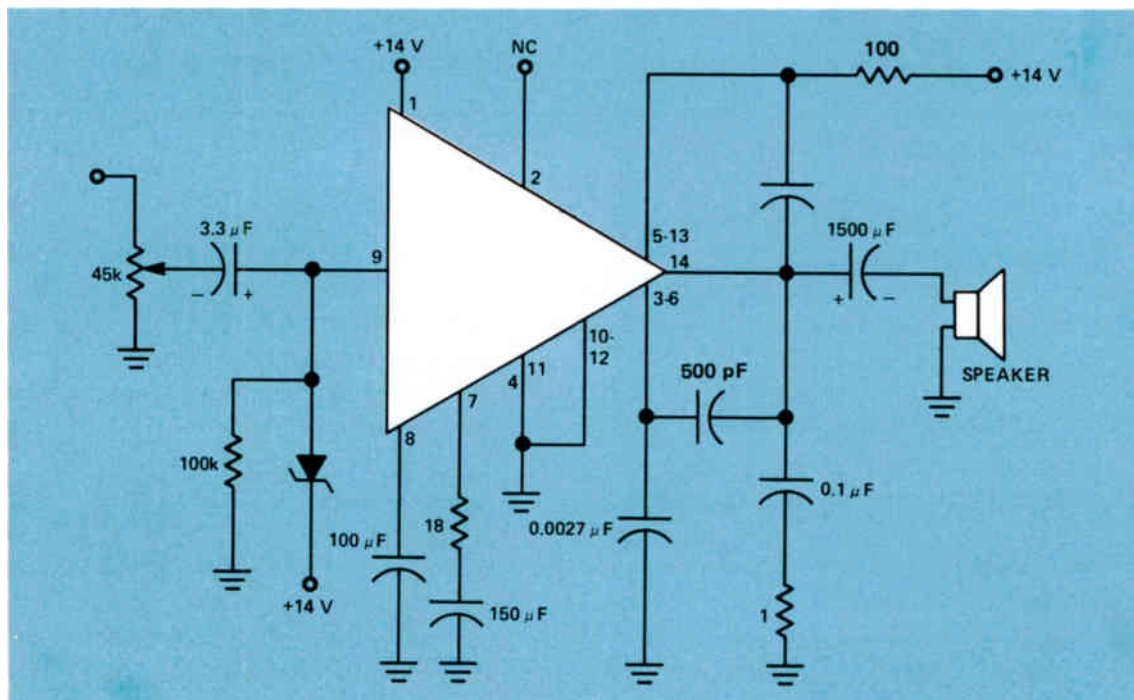

Figure 17. IC voltage amplifier and power amplifier.
the entire audio system including the power amplifier. The one shown in Fig.17 is an example of such an IC.
- 17 If you have normal input to an IC amplifier such as shown in Fig.17, all operating voltages are normal, and the parts are good, but there is no output from the speaker, what should you do?